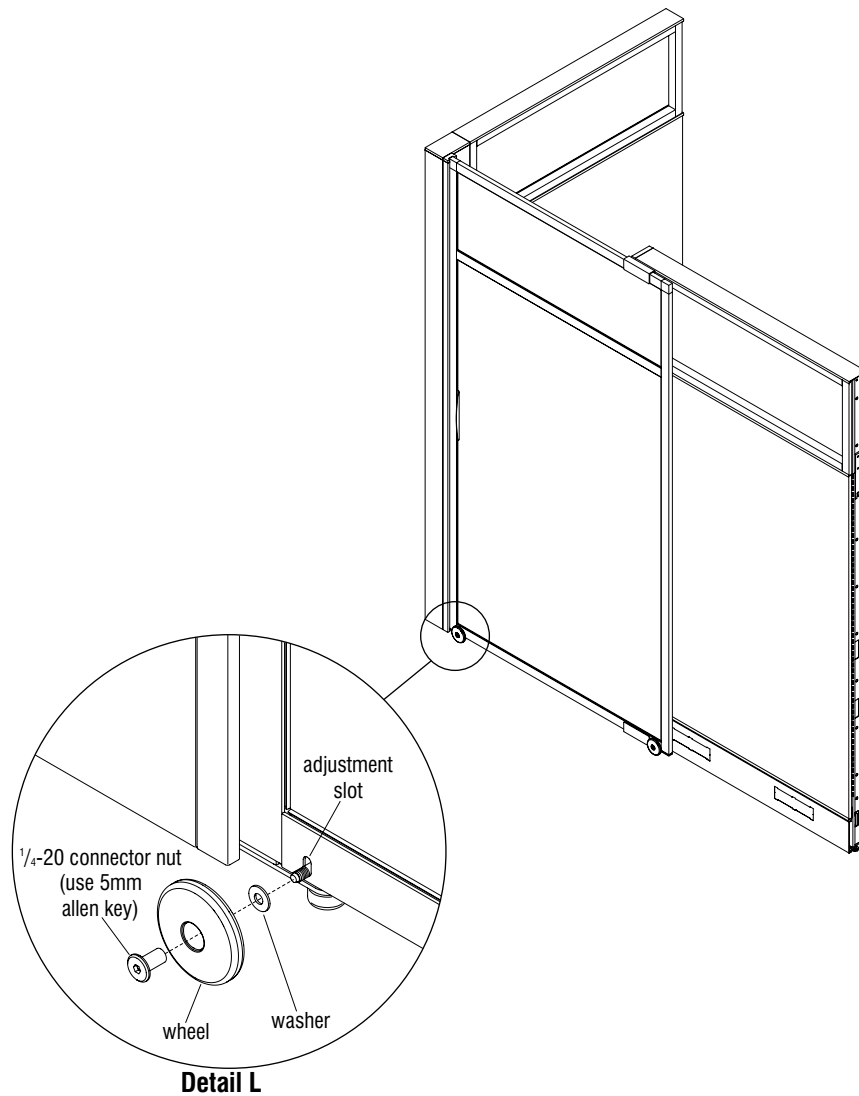

Figure 20
**Note:** The dead end jamb post is installed where a rolling door closes into the end of a panel frame at the side, and the panel frame with the jamb forms a 90° intersection (see Figure 20). Refer to instructions at the beginning of this manual (pages 3-8, figures 1-6) for proper installation of the rolling door and components.
6. Check “plumb” of the rolling door to the dead end jamb rail by rolling the door closed, then confirm that the door contacts the jamb rail in a square and even manner. If necessary, adjust the door angle by loosening (**DO NOT REMOVE**) one or both wheels and moving the wheel(s) up or down in the adjustment slot, then re-tightening in the new position. Wheel assembly is shown in detail below for reference (Figure 20, Detail L).